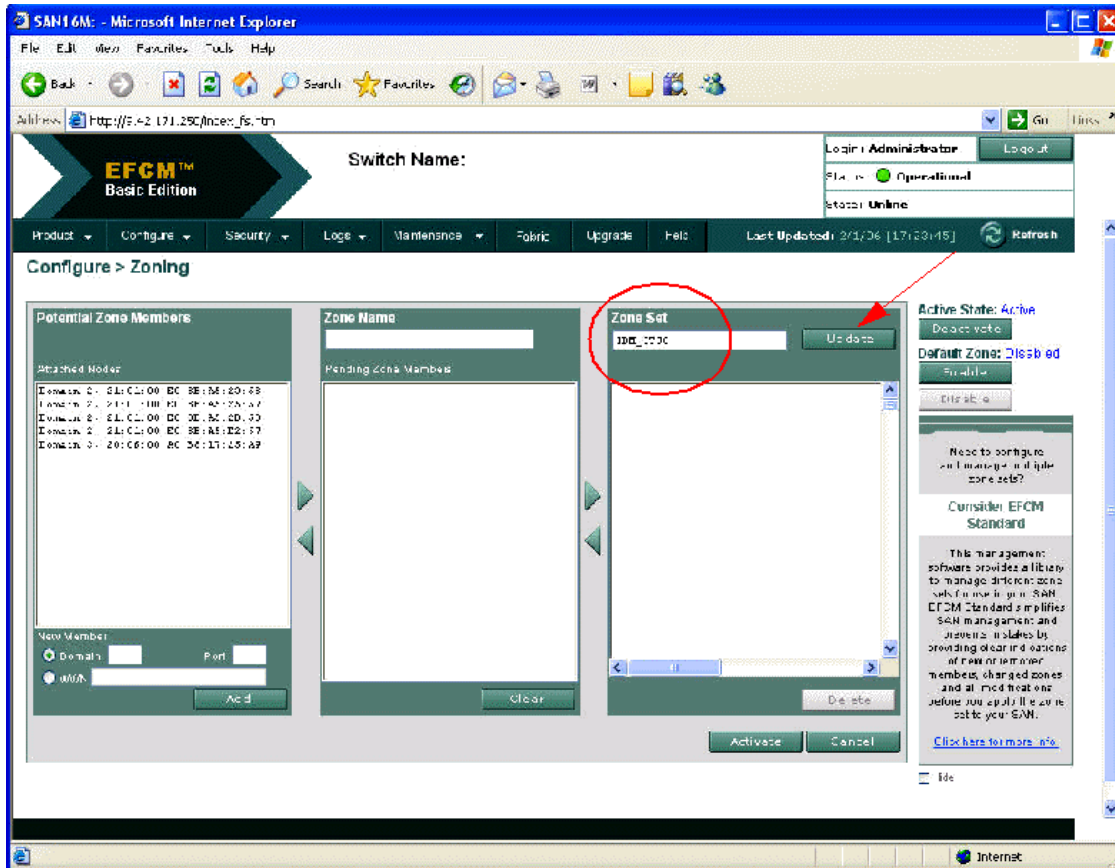

Figure 6-19 Configure → Zoning window
14. Define a name for the zone set and select **Update** (Figure 6-19).